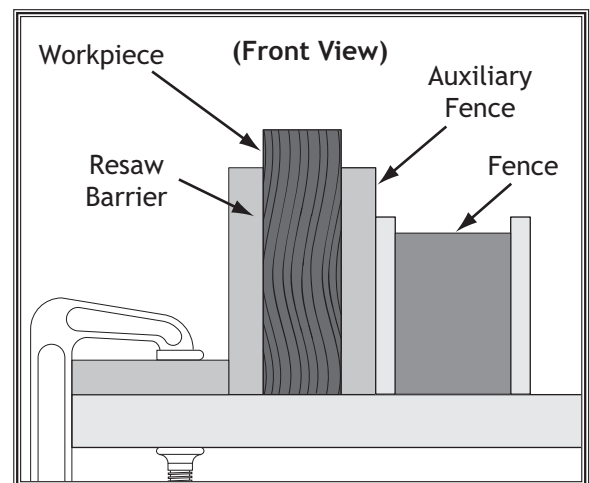

Figure 94. Example illustration of a resaw setup.
5. Place the workpiece against the auxiliary fence and slide the resaw barrier against the workpiece, as shown in **Figure 94**. Now clamp the resaw barrier to the top of the table saw at both ends.